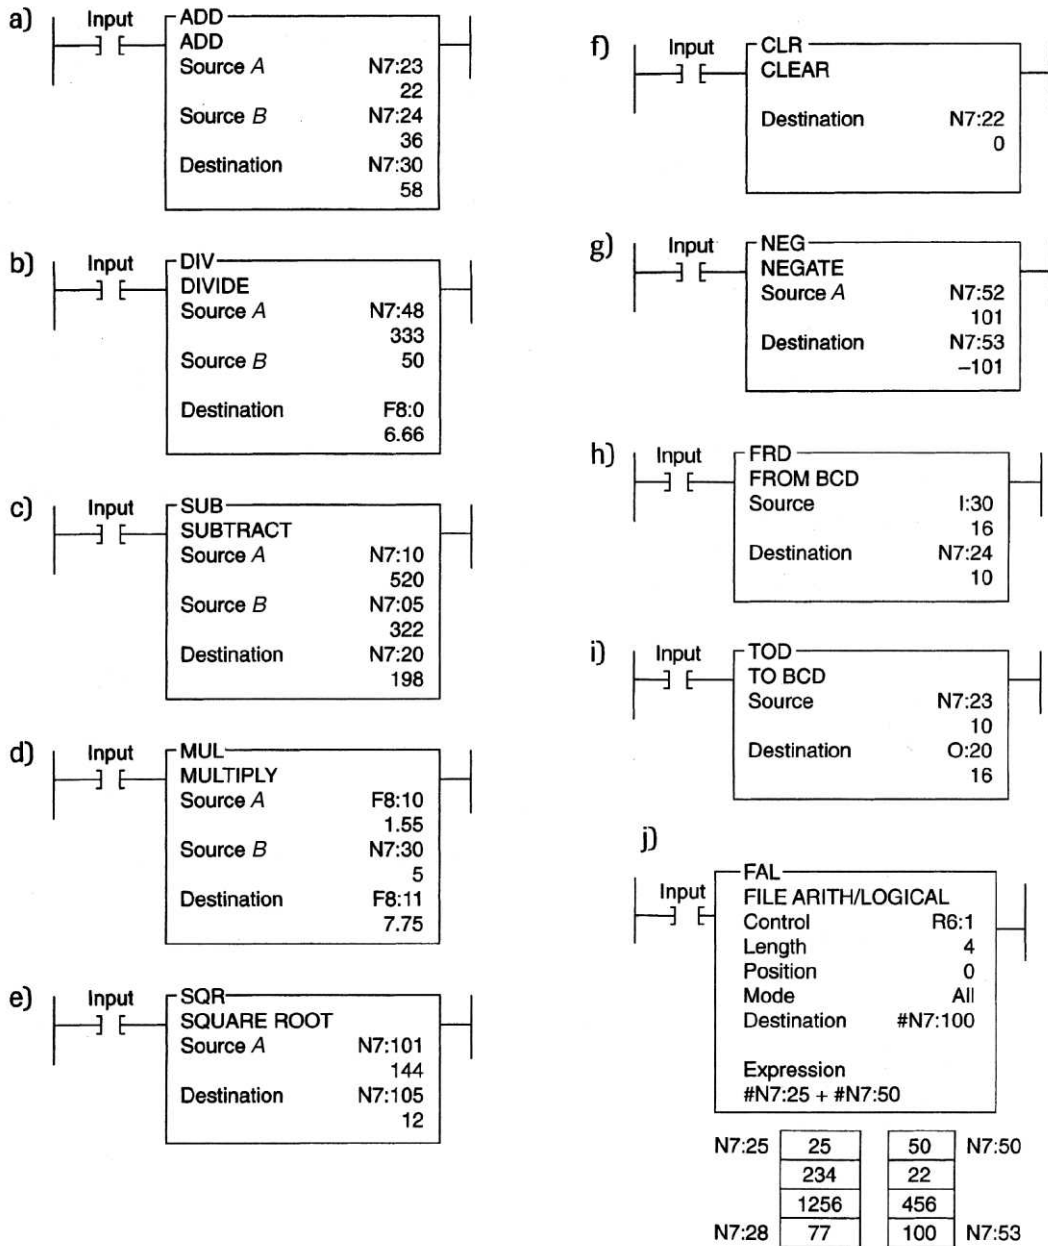

Figure 11-32 Math operations for assignment 6.
6) Program each of the math operations (a through j) shown in Figure 11-32 into the PLC, and prove the operation of each.